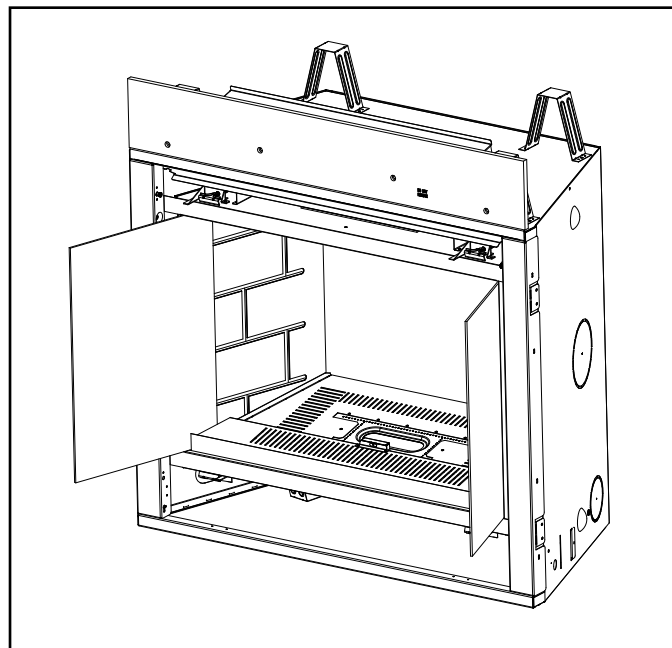

Figure 14.2 Install Side Glass Panels
2. Slide the side glass panels in positions as shown in Figure 14.2. Center the glass retainers and screw using 1 self tapping screw per retainer.